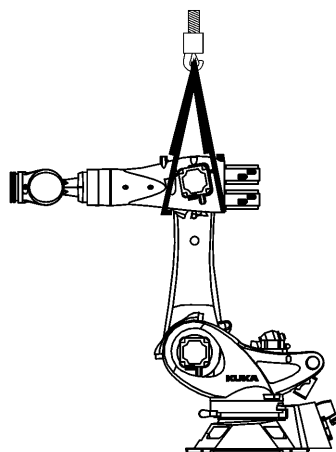

Fig. 10-3: Securing the link arm
1. Move the link arm into a vertical position and secure it using a crane (>>> Fig. 10-3). Move the ceiling-mounted robot into the -140° position. The link arm must not be able to move after reducing the hydraulic oil pressure.